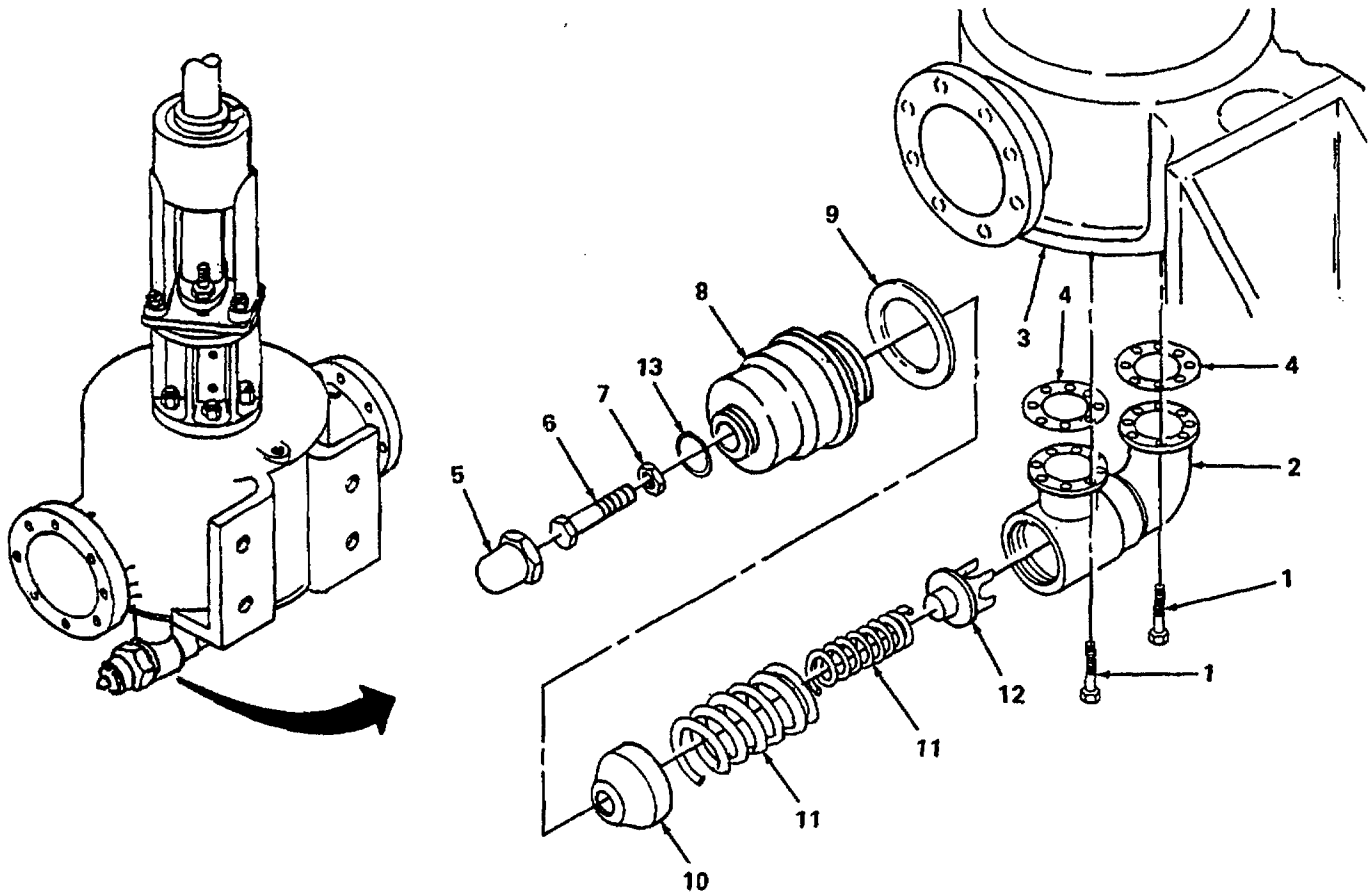

Figure 5-21. Pressure Gage Relief Valve Removal and Disassembly.
- (a) Remove 12 capscrews (1, figure 5-21) securing relief valve (2) to pump head (3) and remove valve.
- (b) Remove gaskets (4) from relief valve (2) and/or pump head (3).
- (a) Unscrew and remove valve cap (5, figure 5-21).
- (b) Before disturbing valve adjustment setting, measure and record visible length of adjusting screw (6).
- (c) Loosen locknut (7) and unscrew adjusting screw (6) until spring pressure is released.
- (d) Unscrew and remove bonnet (8) and bonnet gasket (9).
- (e) Remove spring guide (10), springs (11), and poppet (12) from valve body (2).
- (a) Install poppet (12, figure 5-21), springs (11), and spring guide (10) in valve body (2).
- (b) Install bonnet (8) and bonnet gasket (9) on valve body (2).
- (c) Turn adjusting screw (6) in until visible length of screw equals measurement recorded during disassembly. Tighten lock nut (7).
- (d) Install valve cap (5) making certain gasket (13) is in position on bonnet.